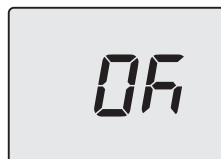

Fig. 8.22
- Press button 12 (Fig. 8.17) to confirm the value entered. The display will show the following (Fig. 8.22) for 5 seconds, then move up to the next level.